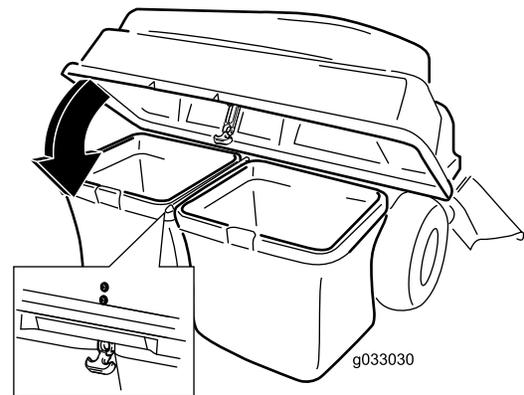

Figure 22
5. Lower the bagger top onto the bags (Figure 22).
6. Secure the hood with the latch (Figure 22).